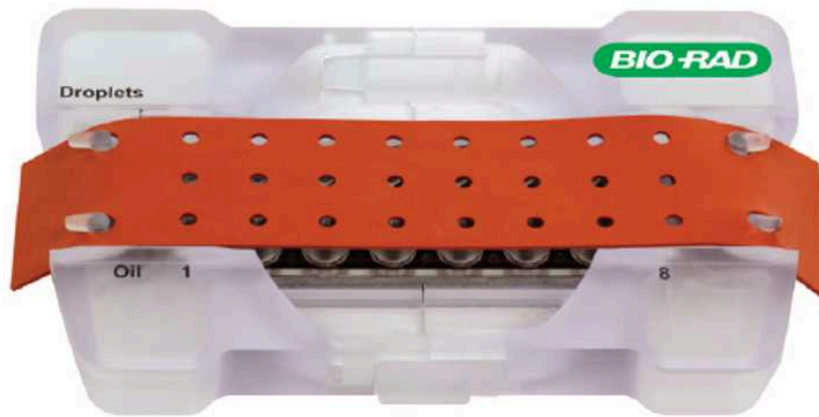

Figure 2 : Correct placement of the gasket over the cartridge holder.
- Place a DG8 gasket for ddPCR on the DG8 cartridge (Figure 2)